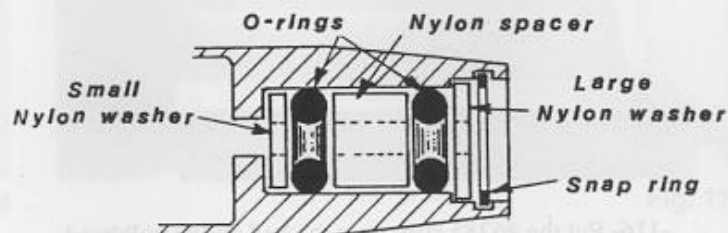

Fig. 120a
-120- Take the #6452 and install the parts in the end in the order shown (see also Fig.120a). First, push the small nylon washer in all the way to the stop. Next push in one red "O" ring. Then the nylon spacer, and now the 2nd red "O" ring. Then the large nylon washer. Now install the large inner "C" clip. Start one end of the clip in, hold it down with your finger. Now, with a small screwdriver, push the other end over and in. If you have trouble installing the clip try this other method: Start one end of the clip in and hold it down with your left thumb nail. Now start working your right thumb nail around, pressing the ring into the hole as you go. By the time you get to the other end of the clip it will snap into the groove.